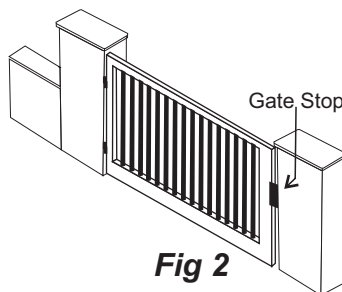

Fig 2
2. On the post that the gate will close too (Fig 2).